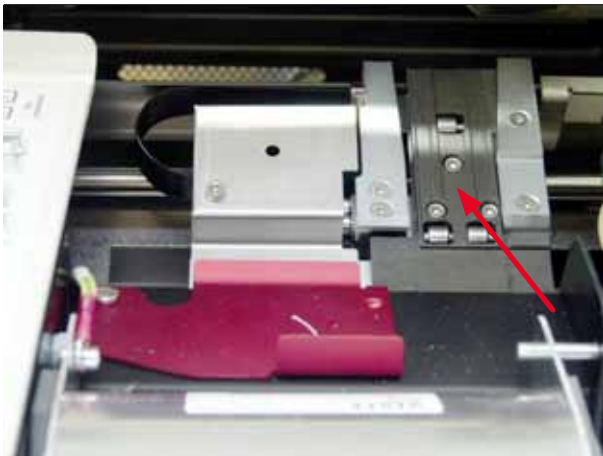

Fig. 45
- Station de transport (→ "Fig. 45")